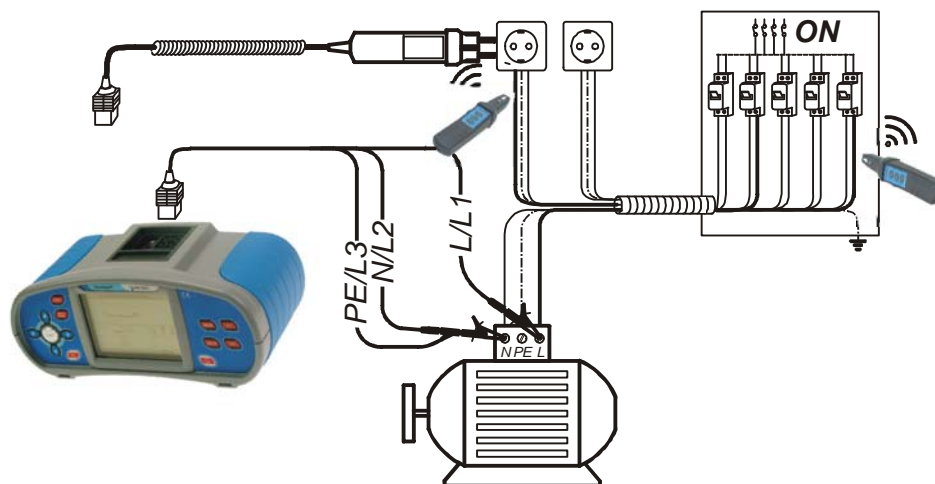

Figure 5.54: Tracing wires under walls and in cabinets
- ❑ **Connect** test leads to the tested object (see *figures 5.54 and 5.55*).